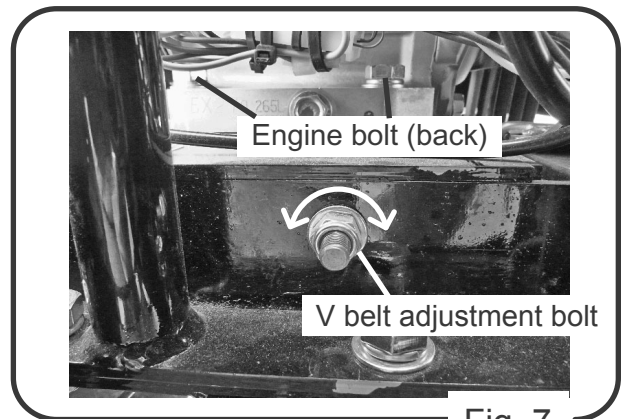

Fig. 7
- C. Adjust the belt tension with the belt adjustment bolt and nut behind the engine. If turned clockwise, the belt tension will increase. (Fig. 7)